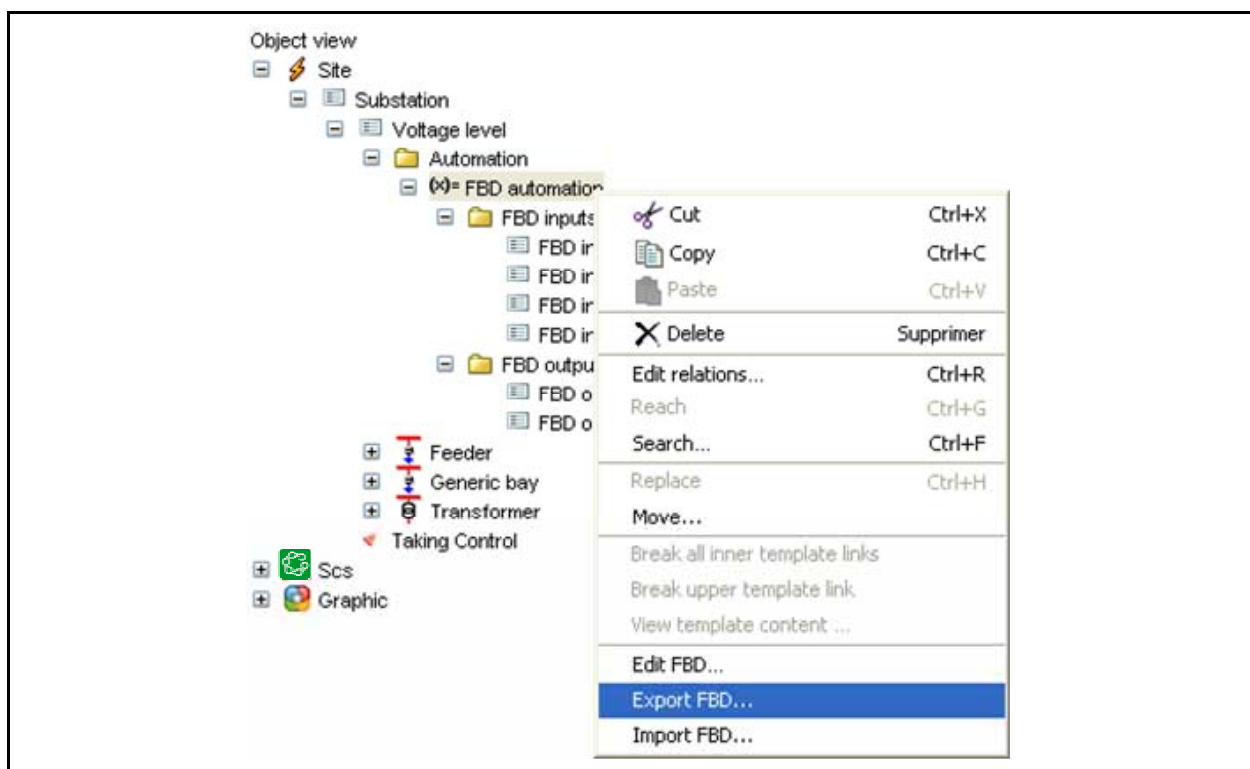

FIGURE 186: SELECTION OF THE FBD TO EXPORT
- a cover page (see figure 186)